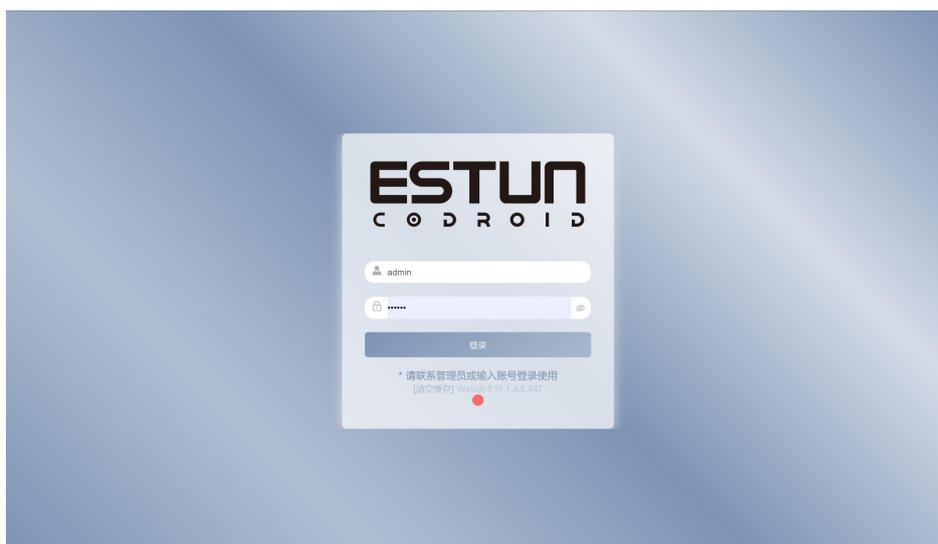

Figure 3-11 Login page
4. Open the browser, enter the IP **address of the robot in the address bar**: 192.168.101.100:9098, **and** press Enter to jump to the login page, as shown in Figure 3-11. - If it cannot be redirected, please check the IP address of the tablet; If it still doesn't redirection to the login page, contact the aftersales person.